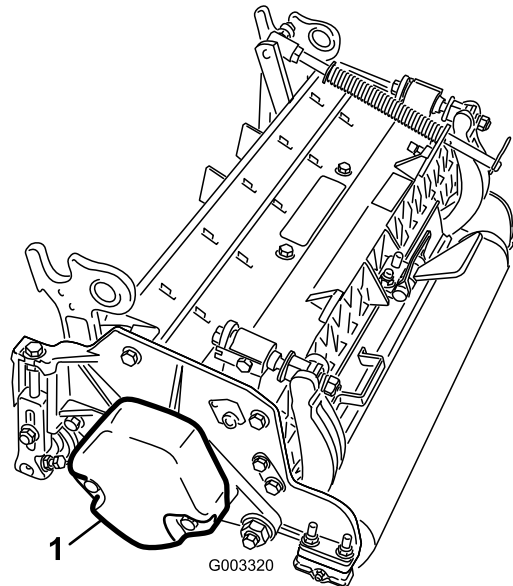

Figure 4
- Make sure that the counterweight (Figure 4) is installed at the proper end of the cutting unit as described in the cutting unit *Operator's Manual*.